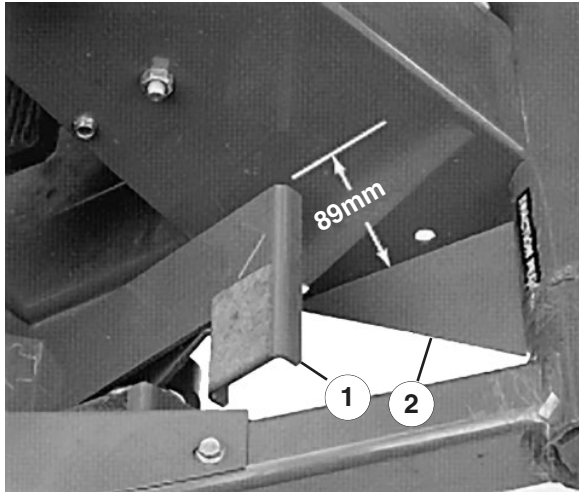
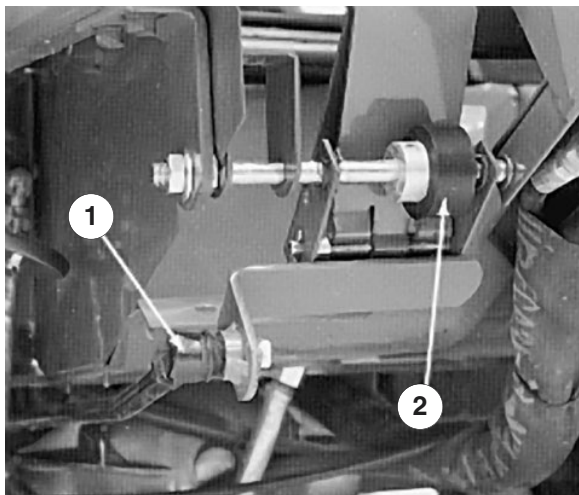

Figure 35
Figure 36
2. Press down on the front of the traction pedal and check travel. There should be approximately 89mm clearance between the end of the pedal and floor plate when the pedal is fully depressed (Fig. 35). Adjust the pump control rod (Fig. 36) to attain dimension.
1. Loosen the two nuts securing the traction pedal shaft on the right side of the pedal (Fig. 36).